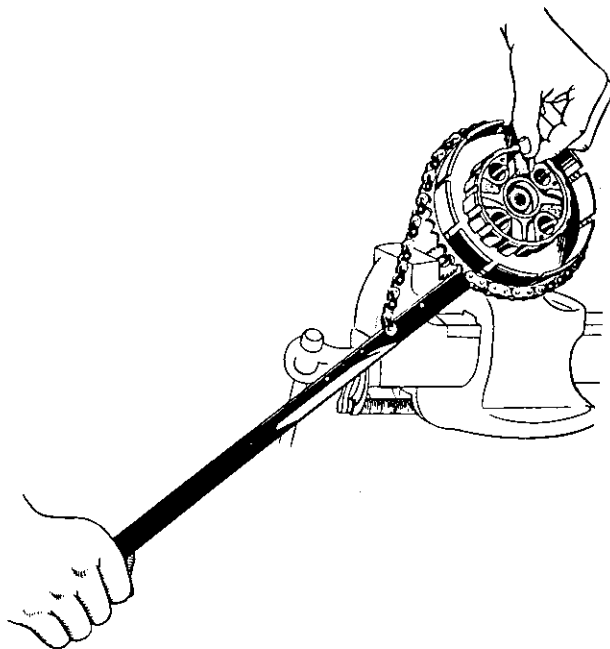

Fig. 4. To replace Clutch Shock Absorber Rubbers.
- (2) If new rubbers are required, the old rubbers can be removed by building up the clutch housing, hub and centre assembly on a gearbox mainshaft, held vertically, keyway uppermost, in a vice. Using the clutch locking tool (Fig. 4) to lock the housing to the centre, apply a chain whip and turn the housing anti-clockwise to compress the drive rubbers sufficiently to be able to withdraw the rebound rubbers (the smaller size) (Fig. 4). Lift out the drive rubbers. If a gearbox mainshaft is not available, some means must be devised of holding the hub horizontal and to prevent it from rotating whilst torque is applied to the housing.
- (3) To dismantle the clutch centre lift out the spider and unscrew the four countersunk 2 B.A. screws securing the inner retaining plate to the clutch centre.